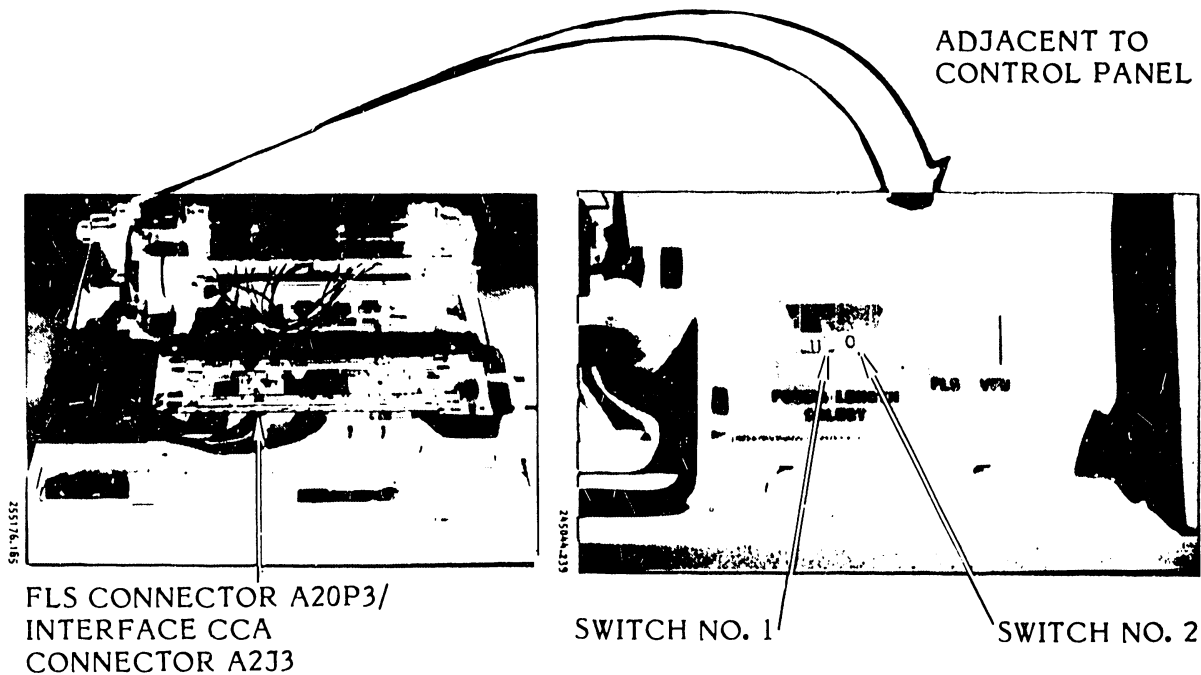

Figure 3-16. Forms Length Select (FLS) Switch and Connector Locations
3.5.3 Forms Length Select (FLS) Switch Continuity Test (Figures 3-16, 3-17)
- e. Unplug the FLS switch cable connector A20P3 from the Interface CCA connector J3 (see figure 3-16).